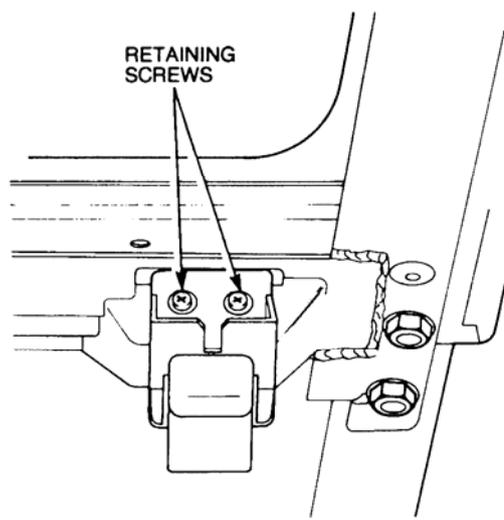

Figure 25 Interior Door Lock Button Removal
- vv.** Remove the screws and washers securing the interior door lock button to the door frame (refer Figure 25).
- a. Install the interior door lock button and secure it with the screws and washers (refer Figure 25).